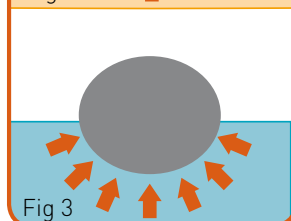

Fig 3
- differ from solids as they displace, conforming completely to the form of the client without any counterforce working against the client (e.g. floating in a pool. (Fig 3)